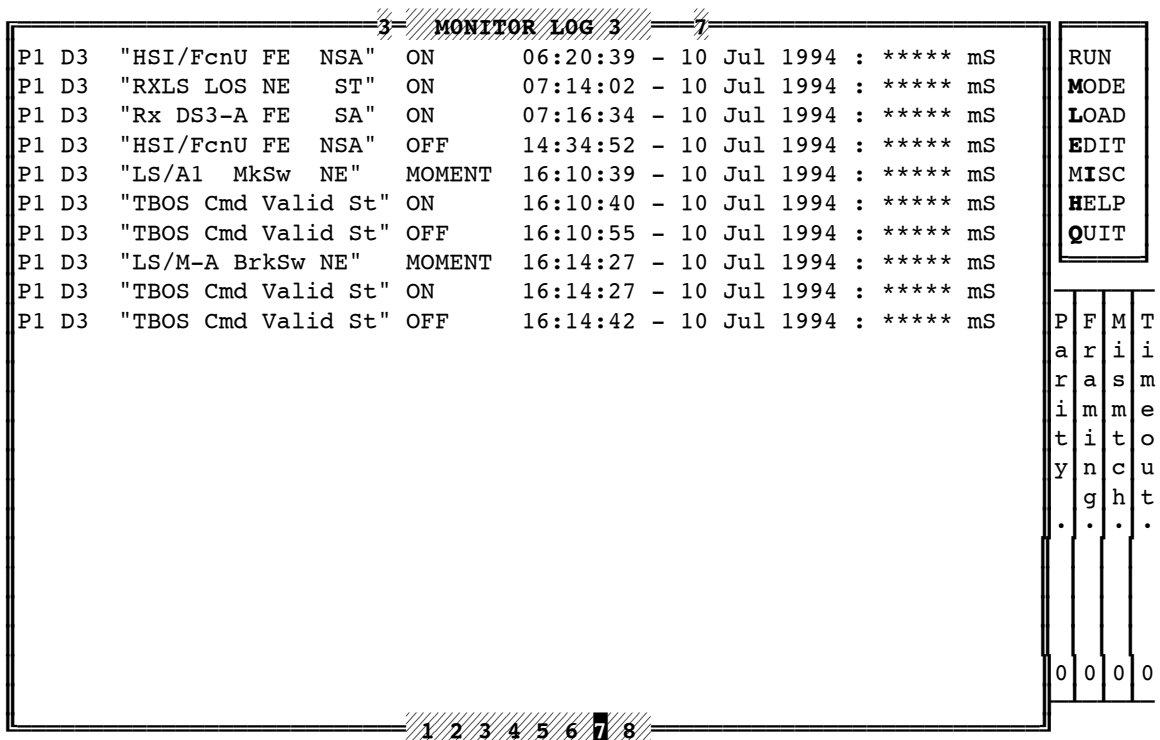

Figure 7.7: Monitor Log Window
- j. **Using the Log Window:** Events (scan point changes of state and protocol violations) are posted to the log window in the same format used for the log written to disk. The window is available if you want to see current data in log format without stopping a test to VIEW the disk log (see Step l). Press <Alt-L> (for *log*) to open this window; press it again to return to the alarm point grid. You can also press <Alt-D> to switch directly to the datascope from the log window. A typical monitor log window is portrayed in Figure 7.7.